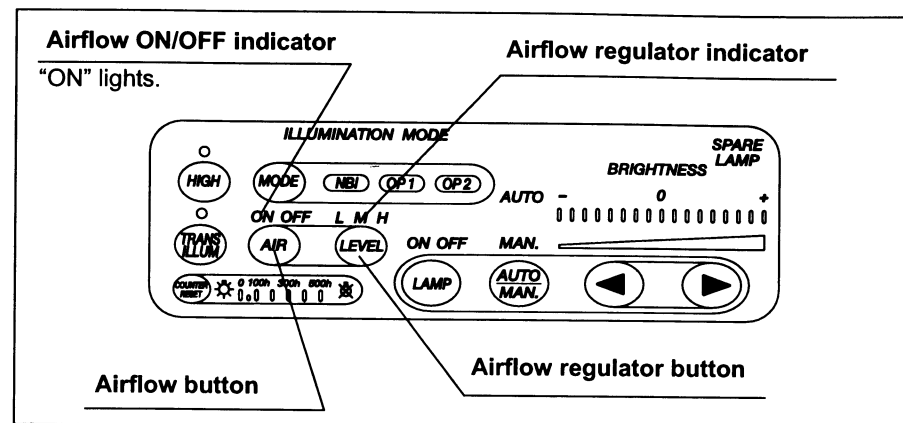

Figure 4.8
1. Confirm that the airflow "ON" indicator lights. If not, press the airflow button (see Figure 4.8).